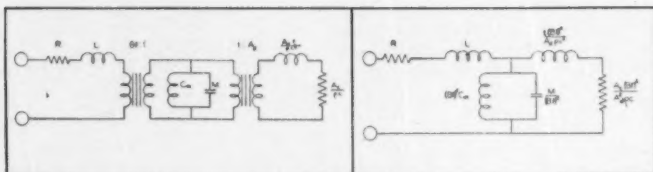
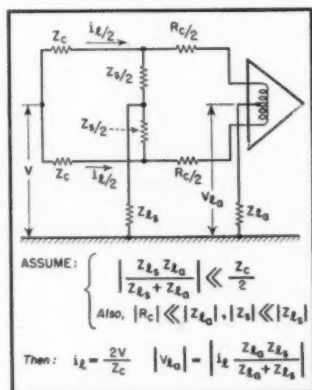

Fig. 7 (left). Equivalent circuit of the entire loudspeaker. Fig. 8 (right). Typical band-pass filter configuration.
Fig. 6. Schematic representation of a longitudinal current resulting from parasitic coupling to a power circuit.
compliance of the air chamber and the resistance of the horn throat to Fig. 6, we have the equivalent circuit of the whole loudspeaker, Fig. 7. This can be reduced to the circuit of Fig. 8, which is a standard band-pass filter, and from the design equations of this filter one finds that for optimum performance the following relations should exist:
These results are shown in the curves of Fig. 6, where (A) is the maximum power in $\frac{1}{8}$ -second intervals for male speech, and (B) represents maximum peak power in the same intervals for a 75-piece orchestra. While there is some reason to believe that higher efficiency in more modern microphones may modify these curves somewhat in the direc-
Some pre-emphasis is employed in practically all commercial recordings made today. Typical curves are shown in Fig. 7, where (A) represents the NAB curve which is generally used with transcriptions and is standard for LP records. The curve used by RCA-Victor is believed to approximate that of (B), while the London (English Decca) curve is shown at (C). Undoubtedly there are some other curves in use, but these shown are commonly employed. If a phonograph amplifier is equipped with means to provide "rolloff" curves which are complementary to these re-
Fig. 6 (left). Curves showing maximum probable power in $\frac{1}{8}$ -second intervals in male speech (A), and in a 75-piece orchestra (B). Fig. 7 (right). Typical pre-emphasis curves: (A) NAB and LP; (B) presumed curve for RCA Victor; and (C) London frr.
The schematic representation of noise resulting from a longitudinal noise current is shown in Fig. 6. The longitudinal impedances of the input circuit to ground are assumed to be negligible in comparison with the magnitude of the coupling impedance Z_c between the power circuit and the input circuit of the amplifier. Consider the case in which the metallic-circuit impedances are negligible compared with the magnitude of the longitudinal impedances to ground of the input circuit. The longitudinal noise current entering the circuit is then $i_l = 2V/V_c$. Under these conditions, the longitudinal voltage to ground of the input circuit of the amplifier is